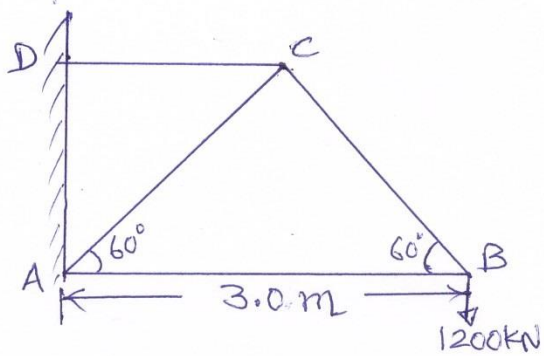

fig. 6
- (b) Find forces in members BC and BA of truss shown in fig.6 by method of joint. Indicate their nature also. 04
- (b) Find forces in members BC and BA of truss shown in fig.6 by graphical method. Indicate their nature also. 04